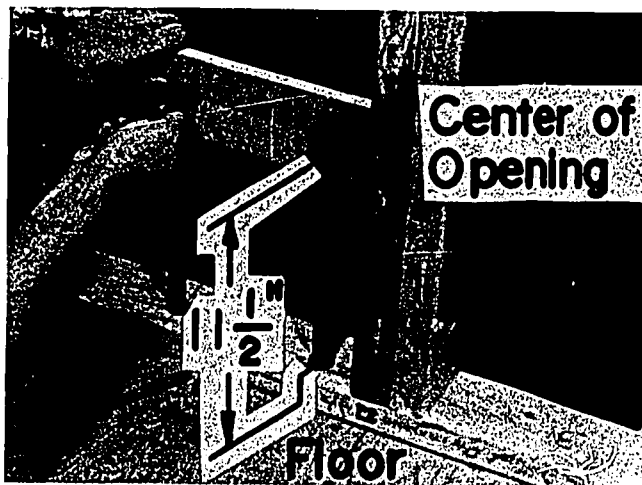

Fig. 51-12. Marking for Placement of Screws (5" nipples are removed.)
5. Attach the elbows to the backing board. See Fig. 51-12.